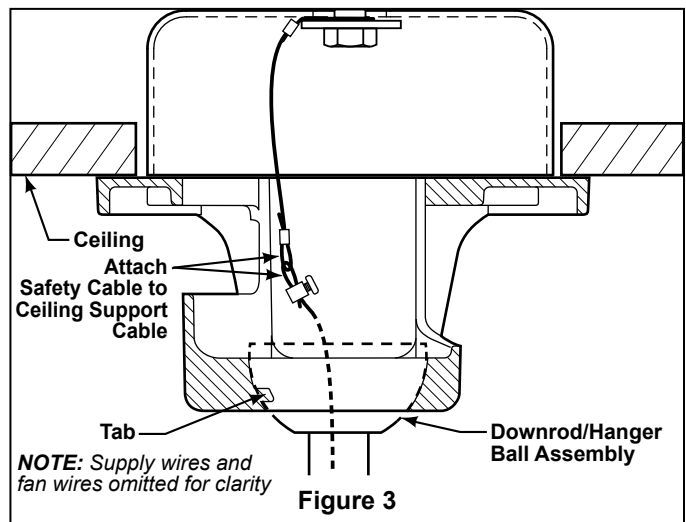

Figure 3
10. Loosen the two setscrews in the downrod support. Align the clevis pin holes in the downrod with the holes in the downrod support. Install the clevis pin and secure with the hairpin clip (Figure 3). The clevis pin must go through the holes in the downrod support and the holes in the downrod. Be sure to push the straight leg of the hairpin clip through the hole near the end of the clevis pin until the curved portion of the hairpin clip snaps around the clevis pin. The hairpin clip must be properly installed to prevent the clevis pin from working loose. Pull on the hanger ball to make sure the clevis pin is properly installed.
11. While pulling up on the hanger ball, securely tighten the two setscrews in the downrod support (Figure 3).
4. Carefully lift the fan and seat the downrod/hanger ball assembly on the hanger bracket that was just attached to the ceiling joist. Be sure the groove in the ball is lined up with tab on the hanger bracket. (Figure 3)
5. Attach the safety cable to ceiling support cable. Slide cable clamp onto safety cable (from fan). Place the end of cable through the loop of ceiling support cable. Pull as much cable through loop as possible. Feed end of cable into clamp hole and firmly tighten screw (Figure 3). Cut off excess safety cable.
- Connect wires as indicated: (Figure 3)
1. To install lower cap - screw in lower cap into bulb socket until tight. (Figure 3)